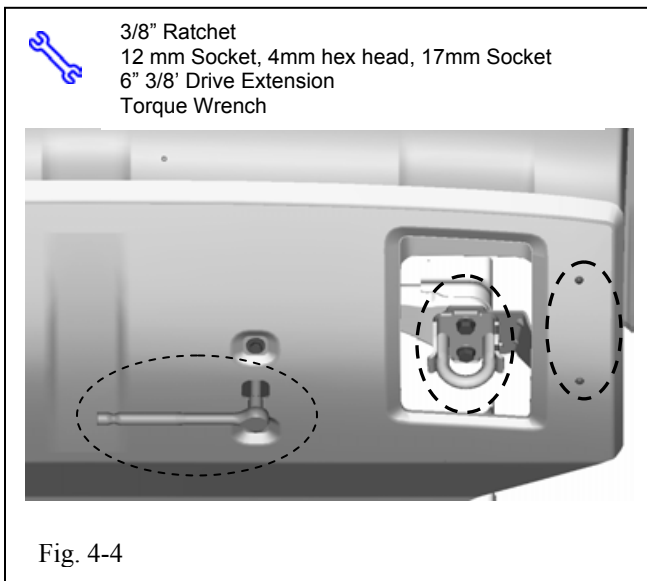

Fig. 4-4
- (e) Once centering is completed, torque all remaining M8 hardware to 18 ft-lbs, torque M6 button head fasteners to 4ft-lbs, and tow hook/loop bolts to 69 ft-lbs. Insert socket and extension through clearance holes on both sides of skid plate to torque front brackets (Fig. 4-4).